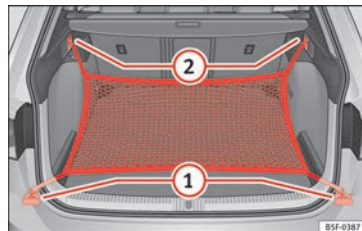

Fig. 178 In the luggage compartment: rings (1) and hooks (2) for securing the net bag (LEON ST model).
- Secure the short net hooks to the fastening rings »» Fig. 178 ① »» ⚠. The bag zip should be facing upwards.
- Secure the straps in the bag hooks ②.